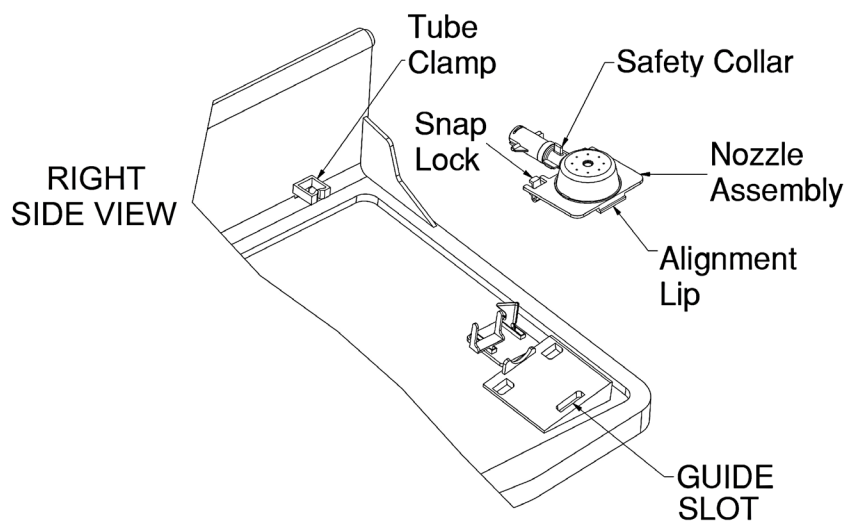

FIGURE 11
- D. Tilt Nozzle Assembly to insert alignment lip into guide slot on Tray Assembly (**Ref Figure 11**)
Step 8. Lid Assembly (Ref Figure 11)